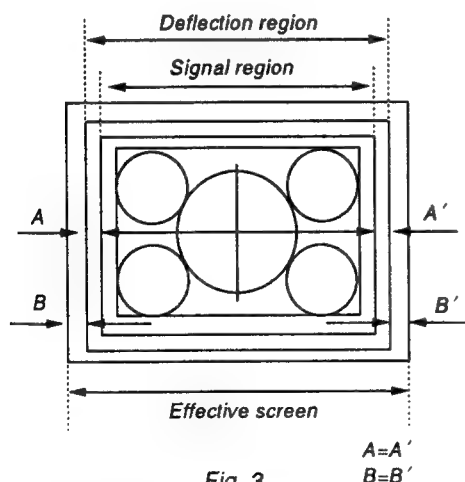

Fig. 3
7. Adjust [60 VIDEO PHASE] so that the signal region comes to the center (A=A') of the deflection region. (Fig. 3)